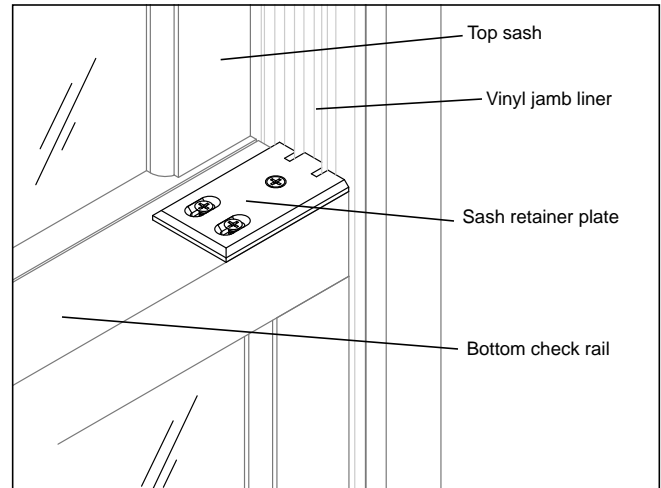

**Figure 11**
- Place part stop into the head jamb with weather stripping facing exterior of building. Use small finishing nails (not included) to fasten, nailing through the part stop into the head jamb. See figure 11.
*NOTE: The head jamb part stop in 1/2" (13). In some older windows the groove that the part stop is inserted into is only 3/8" (10), therefore, the part stop may have to be ripped down to fit.*